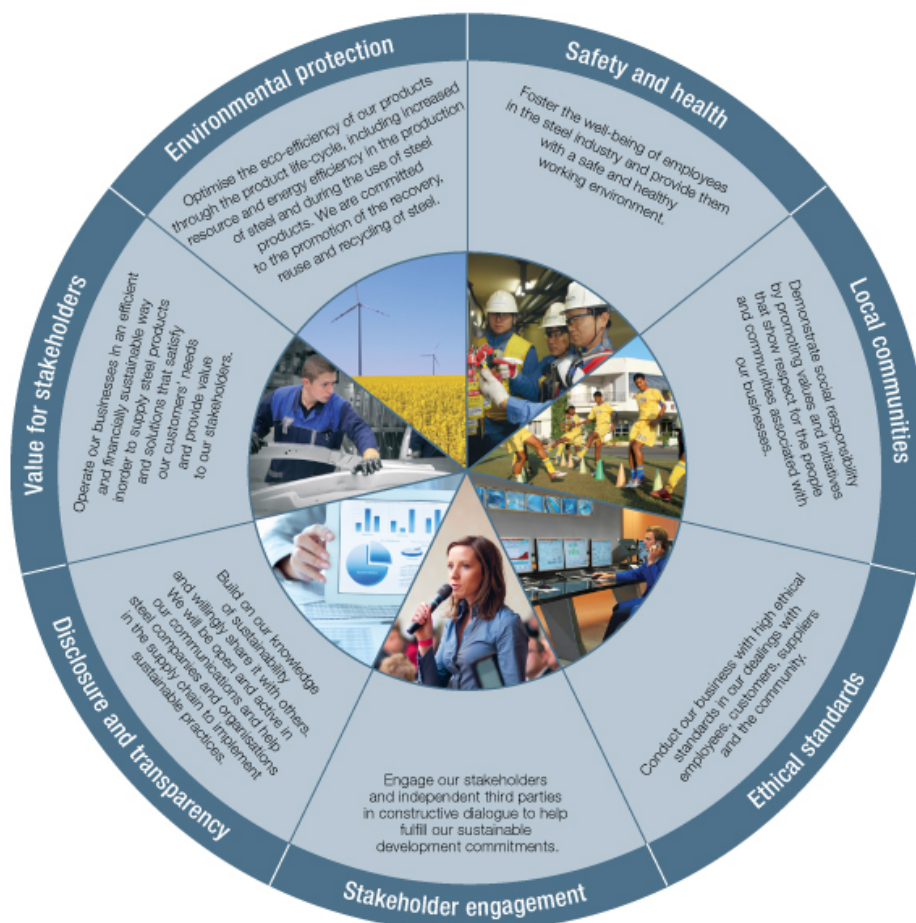

Figure 1: Steel industry sustainable development policy
- Figure 1 below shows the steel industry sustainable development policy, which was adopted in 2002 and built on a set of principles established in 1972, and a statement of principles issued in 1992.